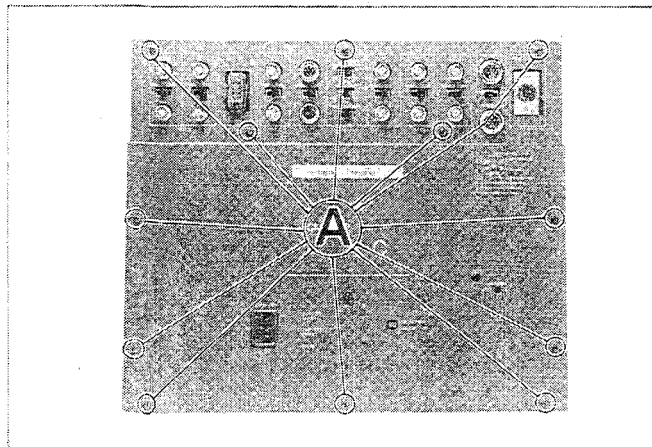
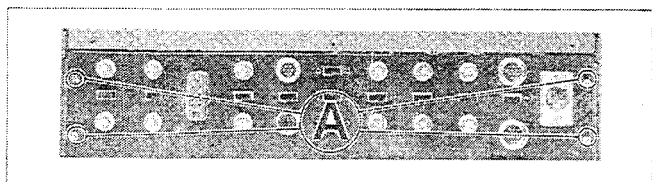

Fig. 1
Fig. 2
Remove 12 screws (A) shown in Fig. 1.
Remove 4 screws (A) shown in Fig. 2 and pull the printed-circuit board toward yourself.
3. Turn the NOTCH F1, 2 (C614, C659) and adjust the state shown in Fig. 1 to that shown in Fig. 2 in the accompanying diagrams (elimination of chroma components).